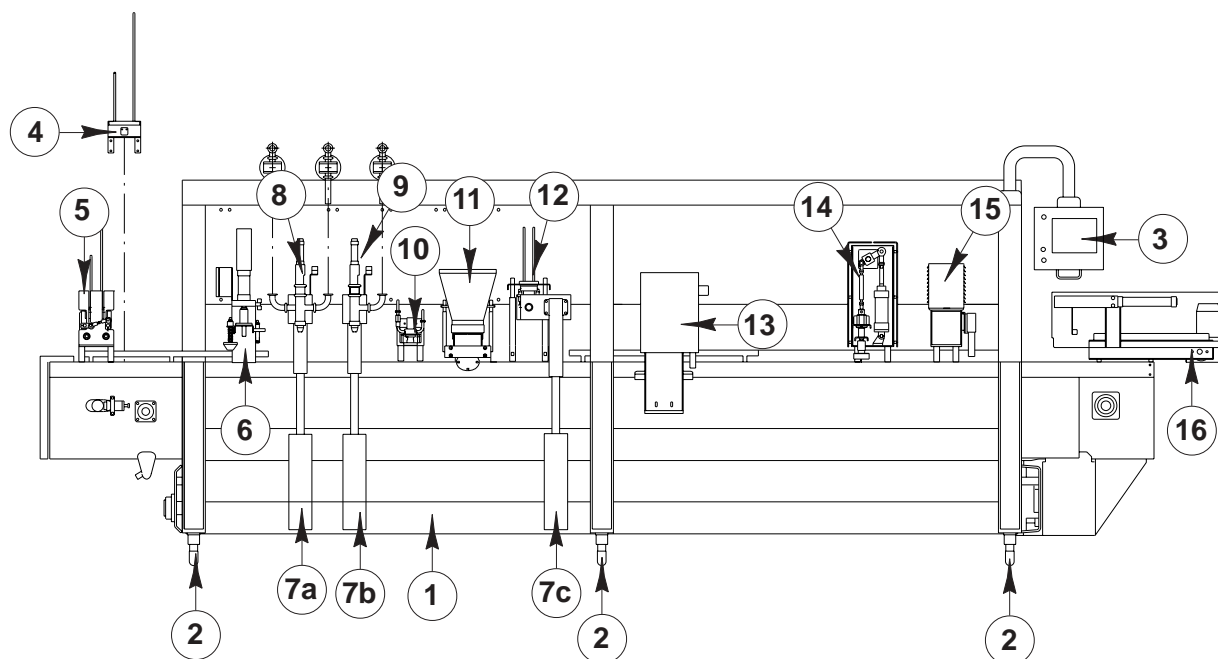

Fig. 3.1
1. Steel structure (*Part.1 Fig.3.1*). with adjustable feet (*Part.2 Fig.3.1*).
7. Control panel with operation panel (*Part.3 Fig.3.1*).
- Cup loading station (*Part 4 Fig.3.1*) - **See paragraph 6.1.1**
- Cone loading station (*Part 5 Fig.3.1*) - **See paragraph 6.1.2**
- Topping** (*Part 6-6a Fig.3.1*) - **See paragraph 6.1.7**
- Doser drive (*Part 7a-7b-7c Fig.3.1*) - **See paragraph 6.1.3**
- Ice-cream dosers (2 flavors)* (*Part 8 Fig.3.1*) - **See paragraph 6.1.5**
- Truffle dosers* (*Part 9 Fig.3.1*) - **See paragraph 6.1.6**
- Ice-cream dosers (1 flavor) (*Part 10a 10b Fig.3.1*) - **See paragraph 6.1.4**
- Chip doser** (*Part 11 Fig.3.1*) - **See paragraph 6.1.8**
- Cocoa doser ** (*Part 12 Fig.3.1*) - **See paragraph 6.1.9**
- Welding station (cups sealing) (*Part 13 Fig.3.1*) - **See enclosed manual**
- Product ejection station (*Part 14 Fig.3.1*) - **See paragraph 6.1.10**